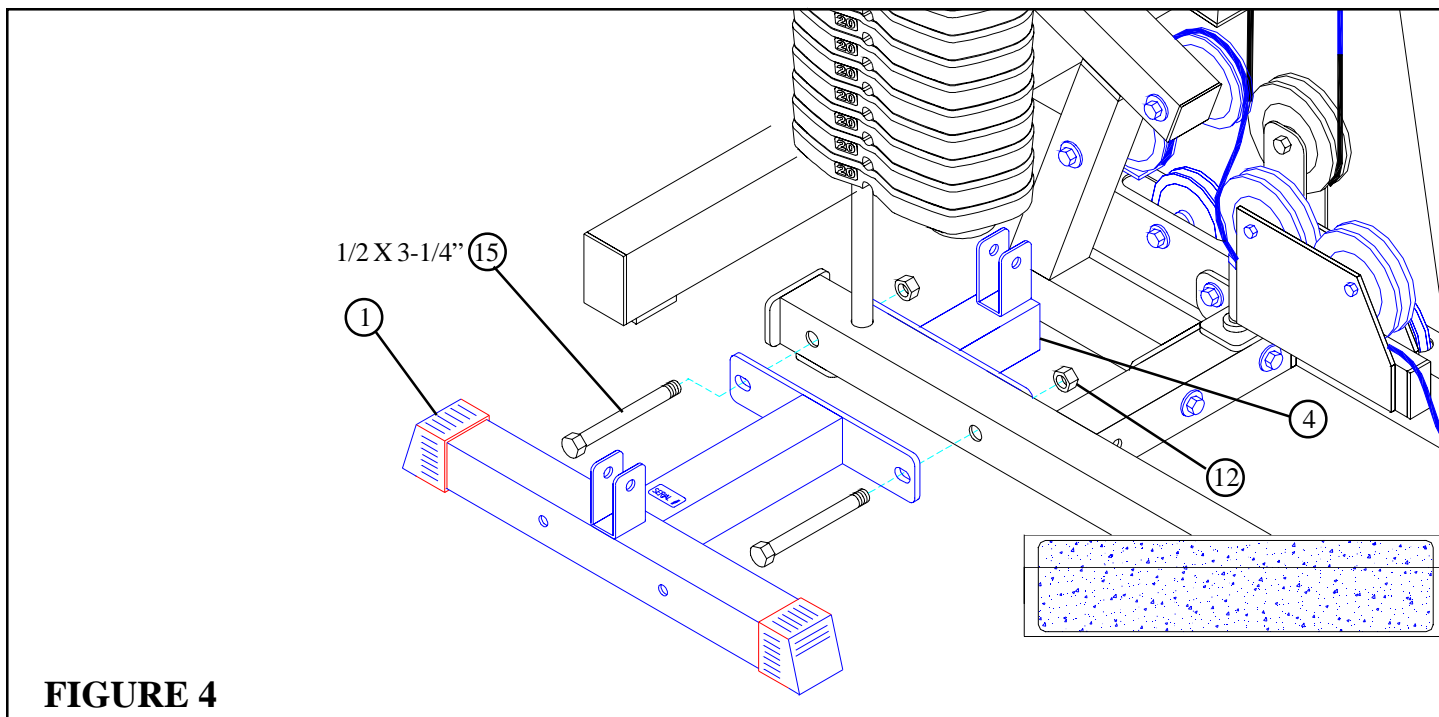

FIGURE 4
- Securely fasten the FRONT LEG (1) and the BASE CONNECTION (4) to the 440 HOME GYM using two 1/2 X 3-1/4" BOLTS (15) and two 1/2" LOCKNUTS (12). See FIGURE 4.